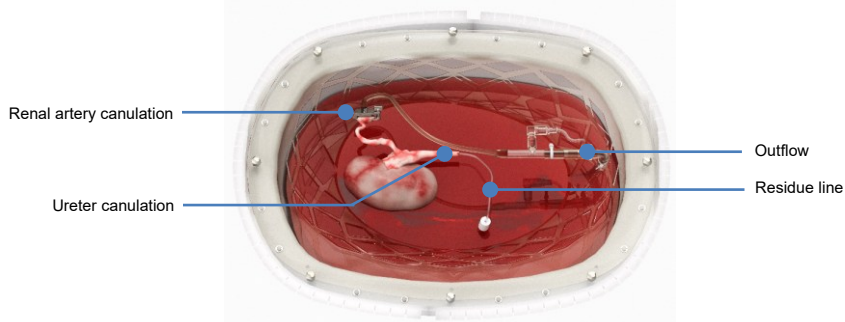

Figure 25: Cannulation of kidney
- Remove the oxygenator from the holder (Figure 7, item 37) and tilt it so the water outlet connector, identified by the air bubbles moving away from the oxygenator, is positioned above the water inlet connector (see Figure 25). This allows any trapped air to rise into the thermo tubing. Avoid kinking the thermo tubing, as this will restrict flow. Avoid straining the temperature sensor cable. If needed, temporarily remove the temperature sensor from the oxygenator to make tilting easier.